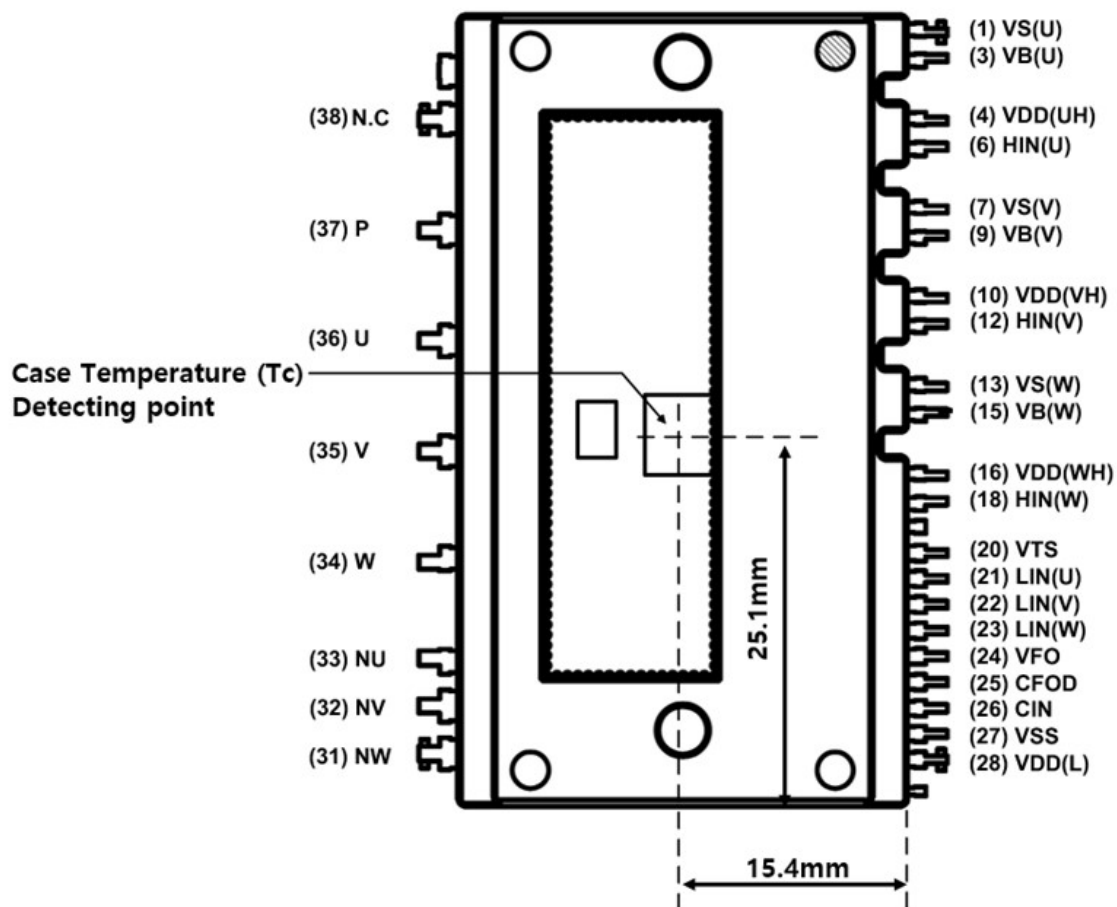

Figure 1. Pin Configuration – Top View
| Tc | Case Operation Temperature | See Figure 1 | –40 ~ 125 | °C |
3. For the measurement point of case temperature (Tc), please refer to Figure 1.